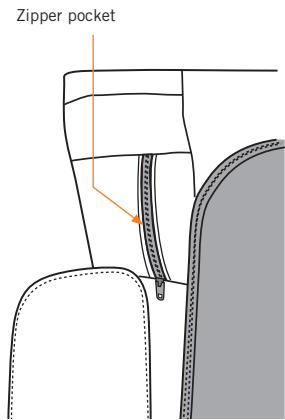

Fig.15
1. Locate the zippered pocket on the back of the body pad in the left shoulder area (Fig.15).